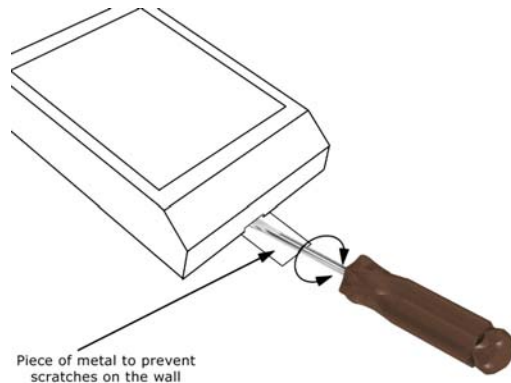

FIGURE 1: SNAPPING OPEN THE COVER
2. Snap open the reader's front cover by inserting a wide screwdriver blade into the slot at the bottom edge of the cover, then twisting the blade gently (see Figure 1). Note: Do not remove screws inside the cover.